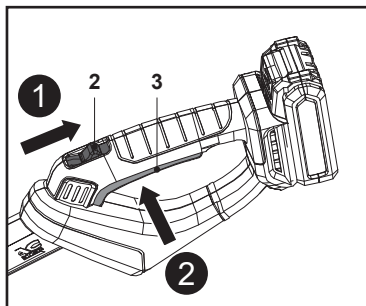

Fig 26
1. Ensure the hedge trimmer blade (17) or the saw chain (20) does not touch any objects. Remove the blade cover (16) or the guide bar cover (18) from the hedge trimmer blade (17) or the saw chain (20) before switching the product on.
2. Hold the product with one hand on the soft grip (7a) of the rear pole (7) and the other hand on the rear handle (1). Do not start the product while handling it with one hand.
3. Pull back the lock-off button (2) and hold it in position (Fig. 26, step 1).
4. Squeeze the on/off switch (3) to switch the product on (Fig. 26, step 2). Release the lock-off button (2) afterwards.
5. Release the on/off switch (3) to switch the product off.